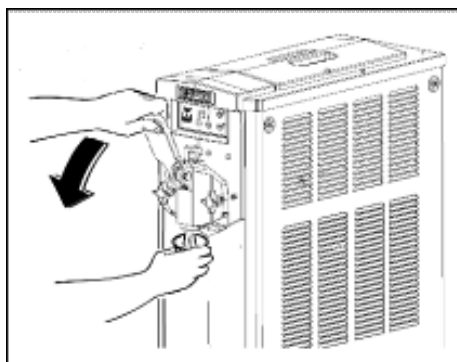

Fig. 67
- To dispense, place a glass under the tap and pull the lever as shown in Fig. 67 . The beater will begin to rotate again, starting the dispensing phase.